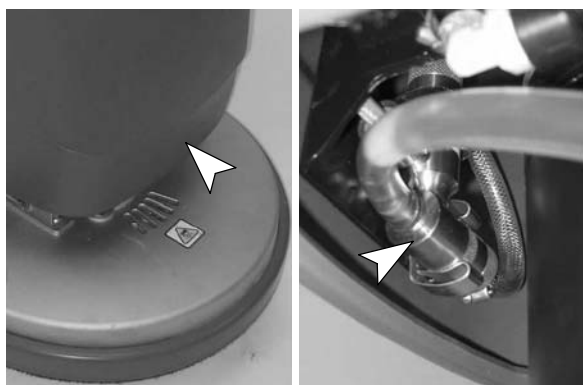

FIG. 56
1. Lower scrub head and remove the detergent injector from spring clamps (Figure 56).